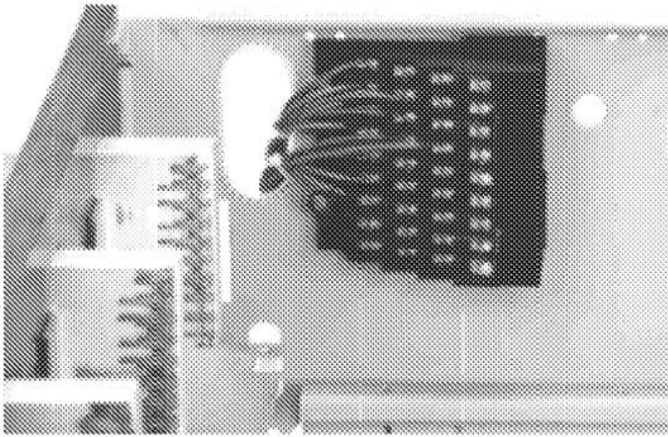

Figure 6. Wiring attached to the Secondary Disconnect block and routed through the grommeted hole in the enclosure side wall.
4. Install the wiring to the Secondary Disconnect block, beginning with the rear row. Route the wires out through the grommetted hole in the side wall, as illustrated in Figure 6.